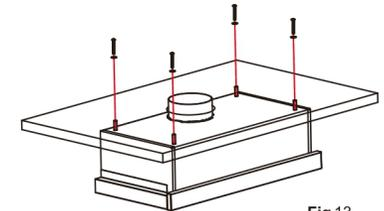

Fig.13
- Insert 4 mounting screws with 4 mounting gaskets to fix the hood .(Fig.13)